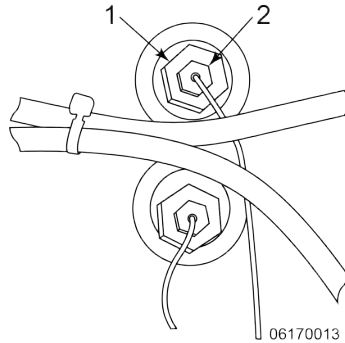

Figure 2-4 Screw Nut Assembly
- 11) Remove the small inside screw nut (2) which holds the capillary line, see Figure 2-4 *Screw Nut Assembly*, page 24.